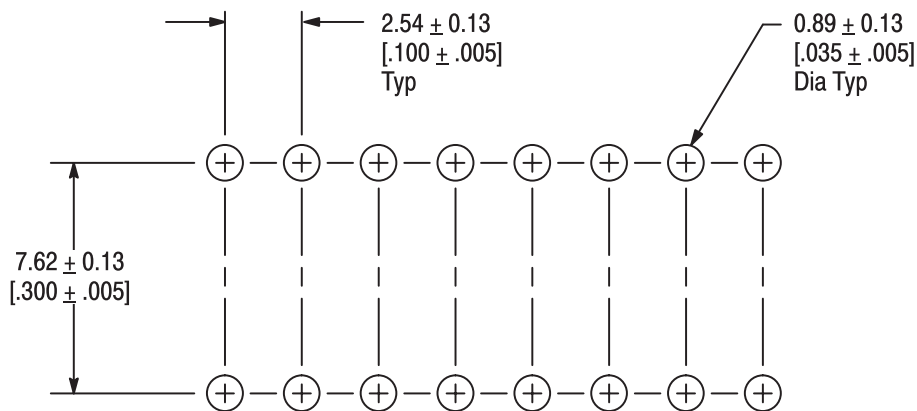

Figure 2
The solder tail contact holes in the pc board must be precisely located to ensure proper placement and optimum performance of the switch. The pc board layout dimensions and tolerances shown in Figure 2 must be observed when preparing pc boards for the various switches. The layout shows the top (component) side of the board.
1. Make a layout on pc board according to dimensions shown in Figure 2.